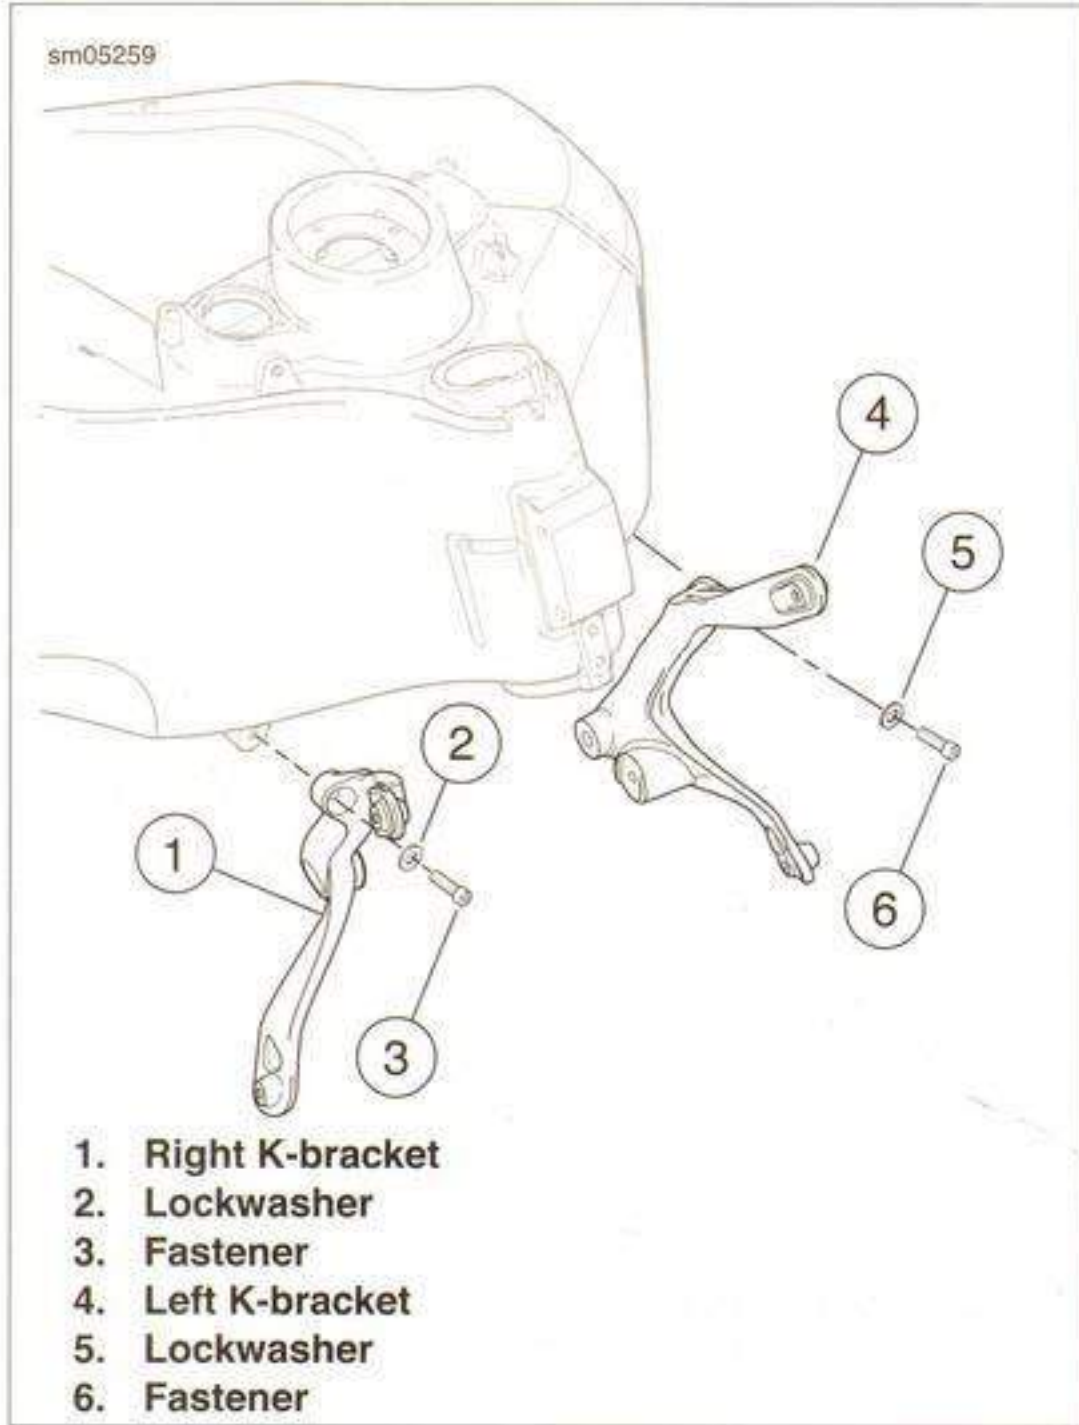

Figure 2-113. K-Brackets
1. See Figure 2-113. Install K-bracket to frame fasteners and washers and tighten to 31.8-35.3 Nm (23.5-26.0 ft-lbs).